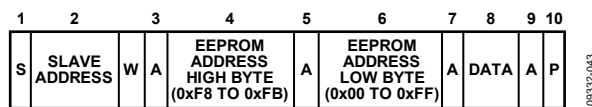

Figure 43. Single Byte Write to the EEPROM
- To write a single byte of data to the EEPROM. In this case, the command is the high byte of EEPROM Address 0xF8 to EEPROM Address 0xFB. The first data byte is the low byte of the EEPROM address, and the second data byte is the actual data, as shown in Figure 43.